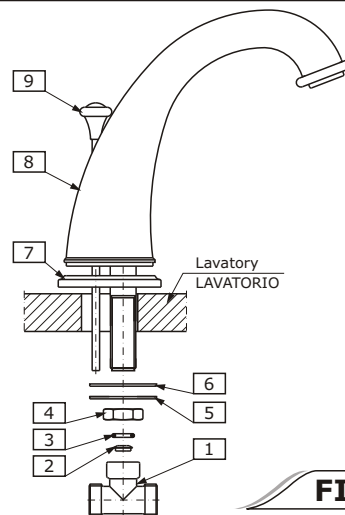

FIG. 4
- Insert spout base (7) and center over side hole of mounting surface. Insert spout shank through the central hole in the deck.
- Position spout (8) onto spout base (7). Place rubber washer (6), metal washer (5) and mounting nut (4) over the shank and tighten the underside of the deck.
- Insert nozzle (2) and seal o-ring (3) into T-connection (1).
- Screw on the T-connection (1) onto spout shank as shown in fig. 4 firmly but do not overtighten.